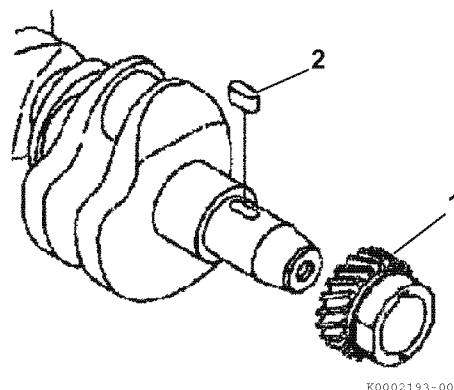

Figure 6-57
12. If necessary, remove the crankshaft gear (**Figure 6-57, (1)**) and key (**Figure 6-57, (2)**). If using a gear puller, be careful not to damage the threads in the end of the crankshaft.